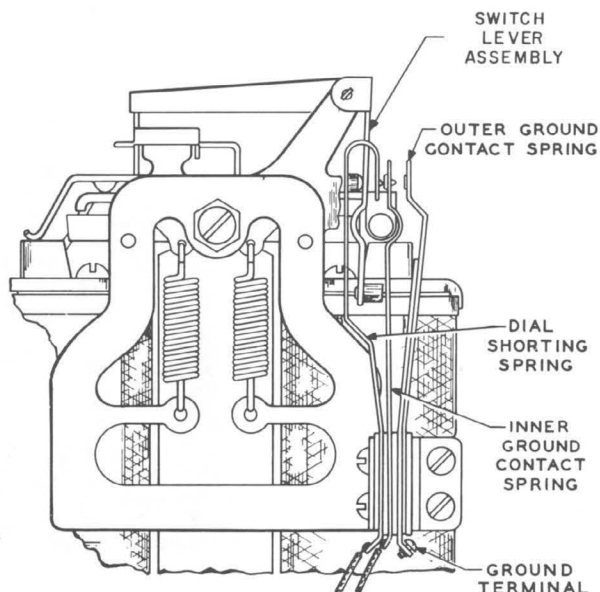

Fig. 4 — D-96590 Dial Shorting Relay, 3-Spring (Guard Cut Away)
**4.04** With coin trigger and operating arm in normal unoperated positions, dial shorting contact springs should have perceptible follow. With coin trigger tripped, they should be open; judge visually. (See Fig. 4 and 5.)